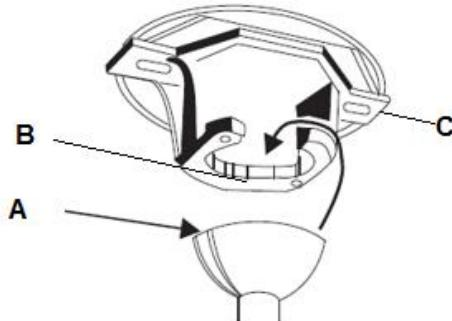

Fig. 6
Lift the fan assembly onto the mounting bracket. Ensure the key slot (A) of the hanger ball is positioned on the key pin (B) of the mounting bracket (C) to prevent the fan from rotating when in operation. (Fig. 6)
- Hang the fan (Refer to “hanging the fan” Fig. 6, page 6).